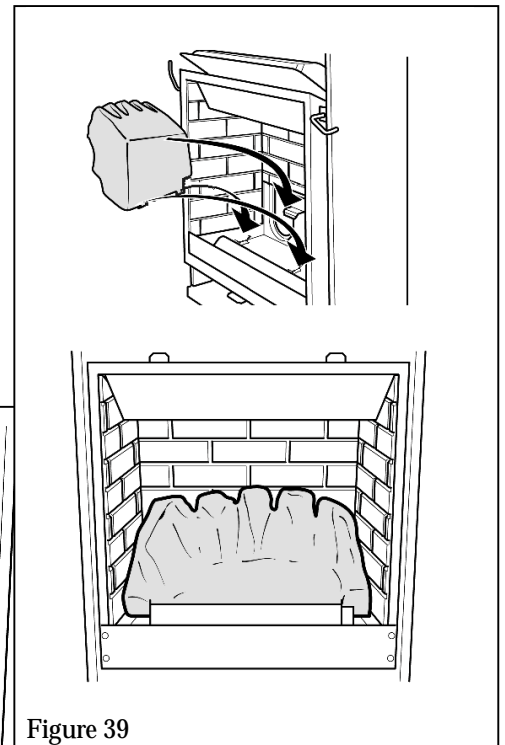

Figure 39
1. Place the base coal on the supports in the firebox and against the firebox back. See figure 39.